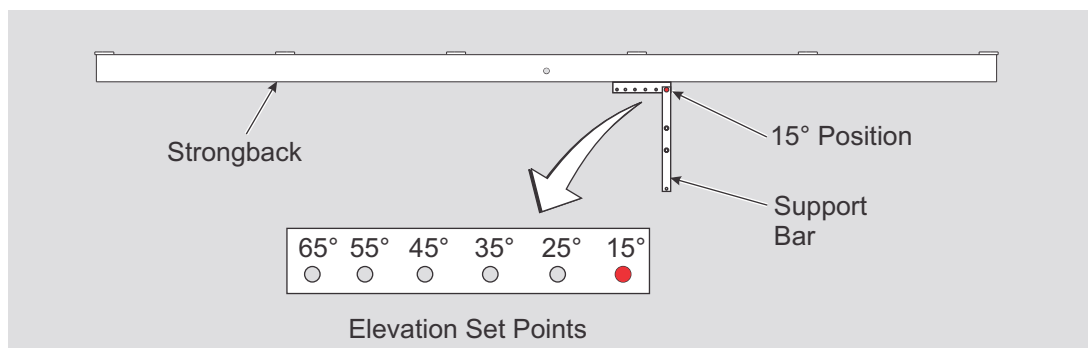

Figure 2-1: Positioning Support Bar
- Remove the Support Bar from the Strongback and re-install in the 15° elevation set point. Secure with the 1/2" hardware and finger tighten. (See Figure 2-1)